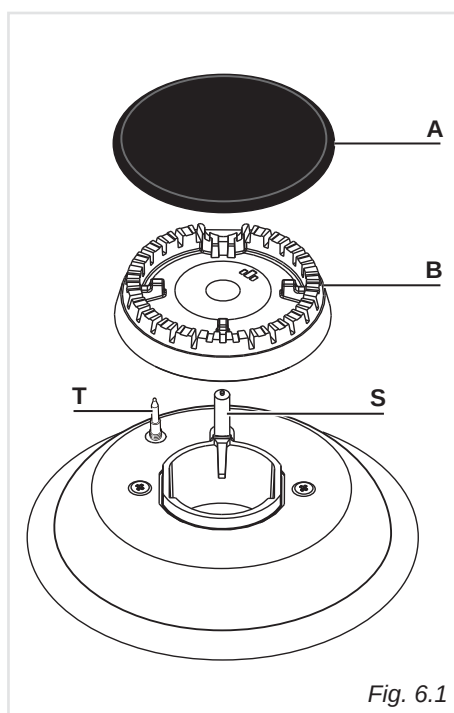

Fig. 6.1
- Check that the probe "T" (figs. 6.1, 6.3, 6.4) next to each burner is always clean to ensure correct operation of the safety valves.
- Check that the electrode "S" (figs. 6.1, 6.3, 6.4) next to each burner is always clean to ensure trouble-free sparking.
It is very important to check that the burner flame spreader "B" and the cap "A" have been correctly positioned (see figs. 6.1 and 6.2). Failure to do so can cause serious problems.